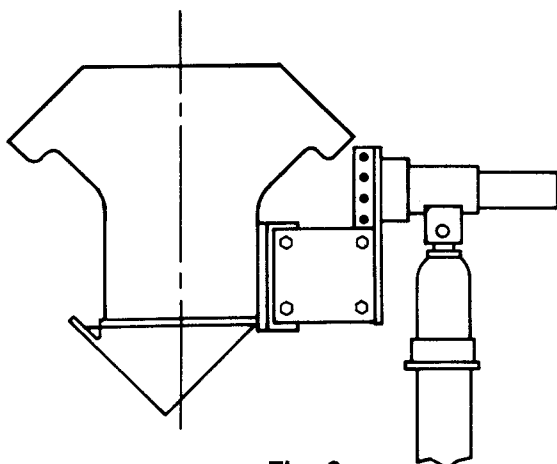

Fig. 2
3. To finish attaching the engine to the Engine Stand, the engine must be turned 45°. Hook a second lifting device to the opposite side of the engine. Swing the engine into an upright position by pivoting on the bottom cap screw. Install the top cap screw as shown in Figure 2. Securely tighten the side plates to the engine mounting plate and to the universal mounting adapter plate on the engine stand.